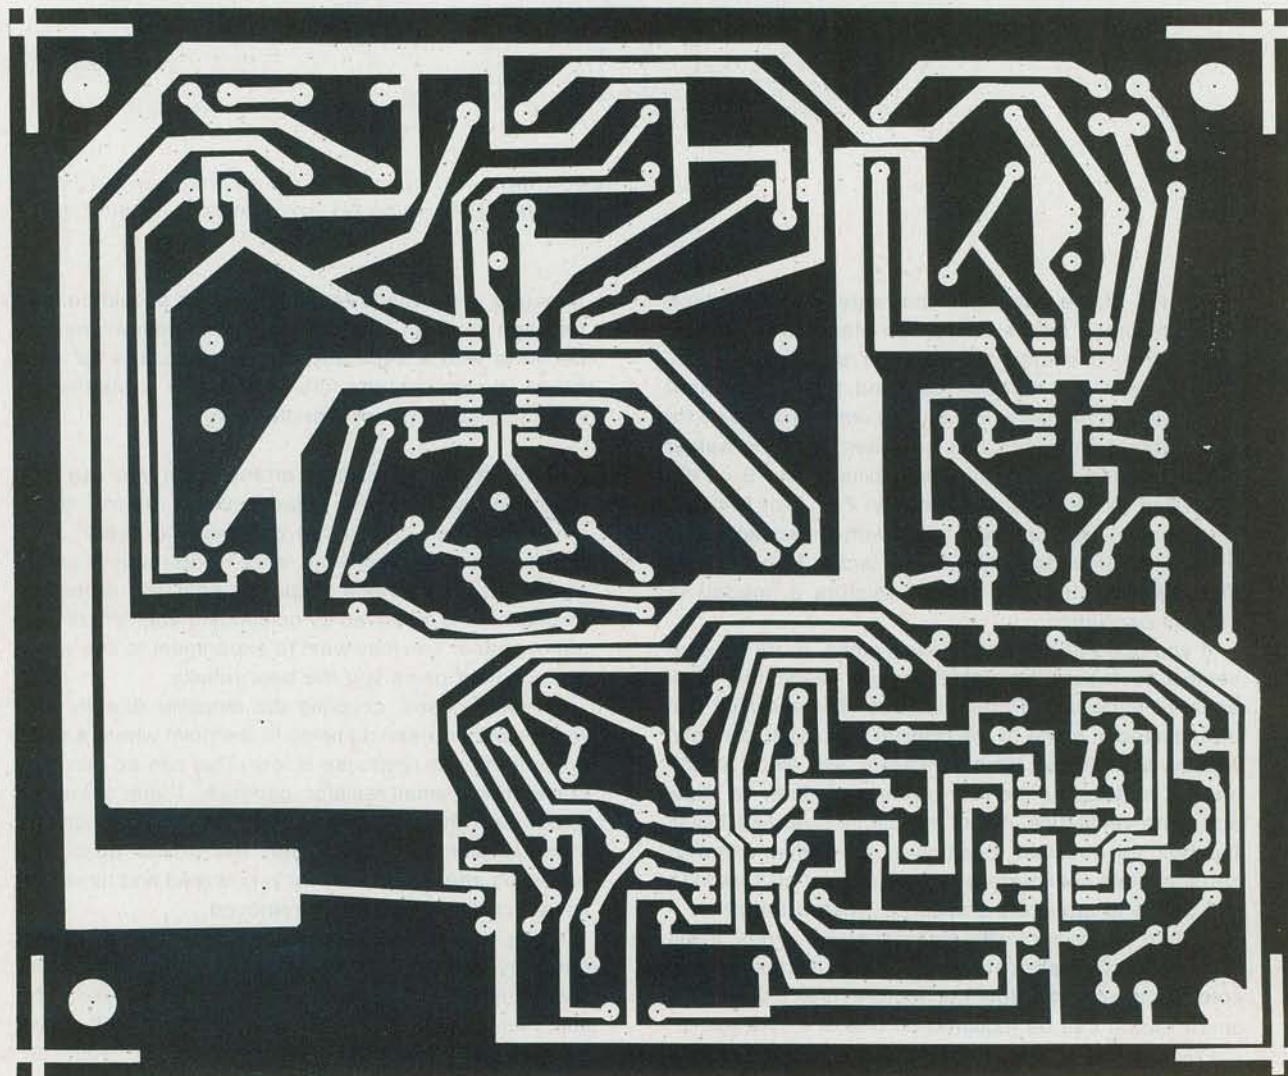
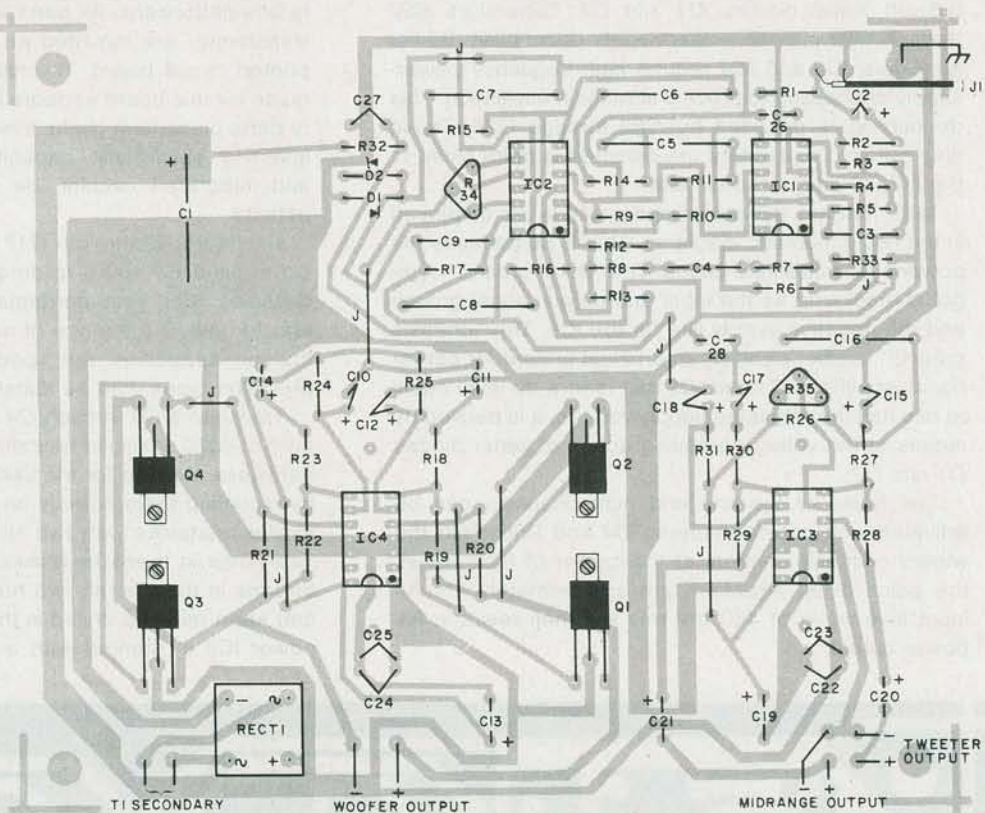

Fig. 3. Actual-size etching and drilling guide for printed circuit board.
Fig. 4. Component layout diagram for the printed circuit board. Transistors Q1 through Q4 are mounted on heat sinks.
**Construction.** The assembly of the project is relatively straightforward. All parts except the 24-volt power transformer are mounted on a single 5½-X-6½-inch printed circuit board. The full-size etching and drilling guide for this board appears in Fig. 3. A complementary parts placement guide is reproduced in Fig. 4. When inserting electrolytic capacitors, diodes, transistors and integrated circuits, be sure to observe proper polarity.